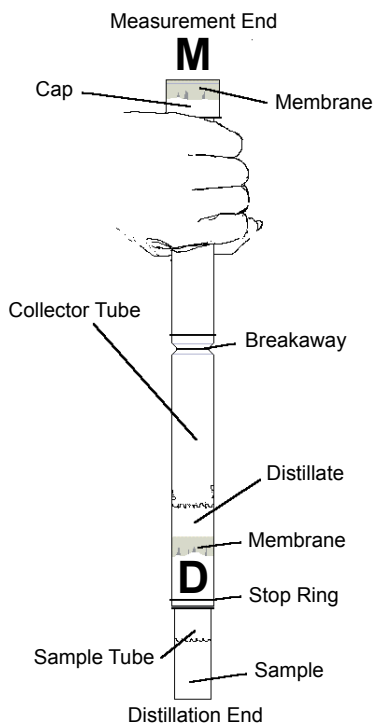

Figure 1
2. Place a MicroDist (MD) collector tube (Figure 1) in a suitable holder with the D end pointed downward and pour in 1.5 mL trapping solution (1 M NaOH).